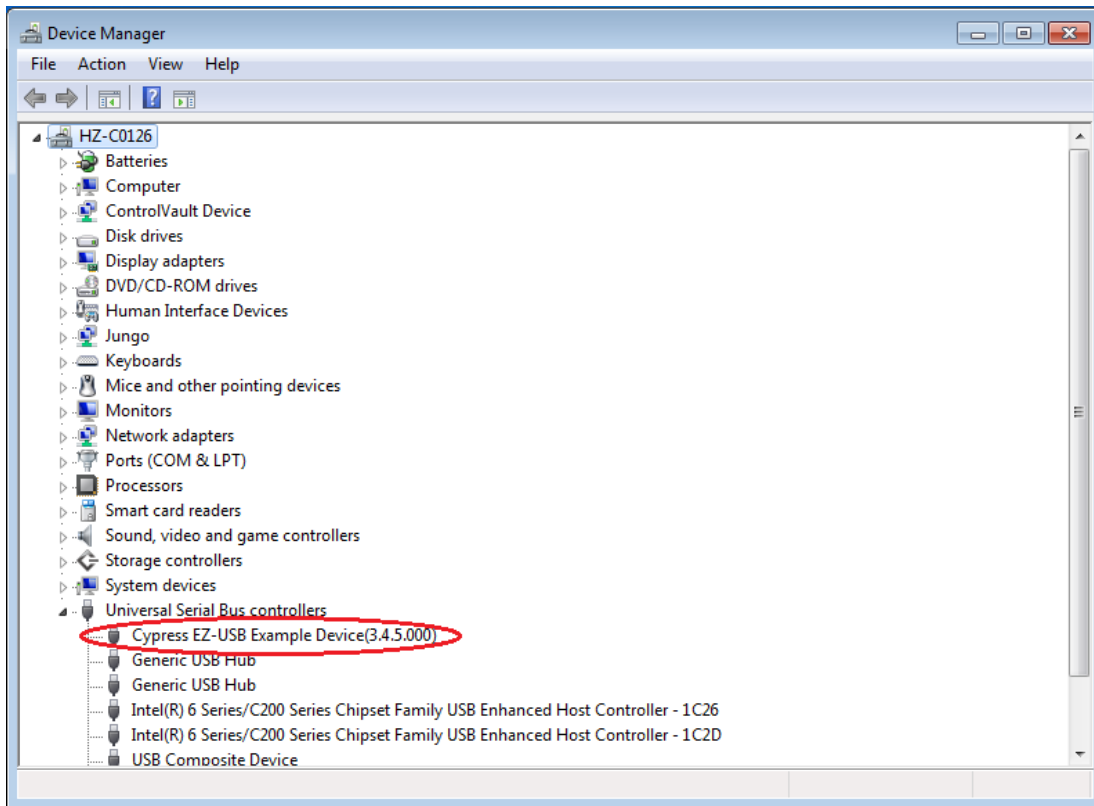

Figure 6: Kit Recognized by Computer
Step 2: Connect the Kit with the EVB after the Kit is recognized by the computer (see Figure 6).